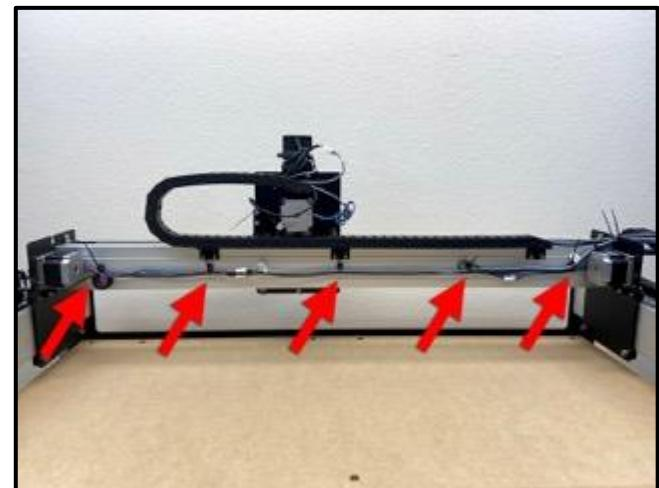

Figure 9-6
2. Use five (5) cable ties to secure the cables to the five (5) cable tie mounts along the back of the X-rail. See *Figure 9-6*. The cable tie mounts have two attachment points. For the **center cable tie mount**, use only one of the two attachment points to secure the Y-cables; the other will be used to secure the router's power cord.